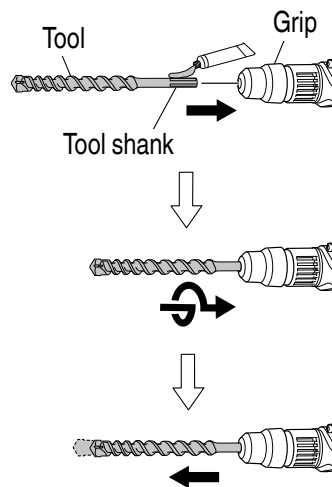

Fig. 18
- (1) Clean, then smear the tool shank with the grease provided in the tube.
- (2) To attach the tool (SDS max shank), insert it into the hole until it contacts the innermost end of the hole as illustrated in Fig. 18.